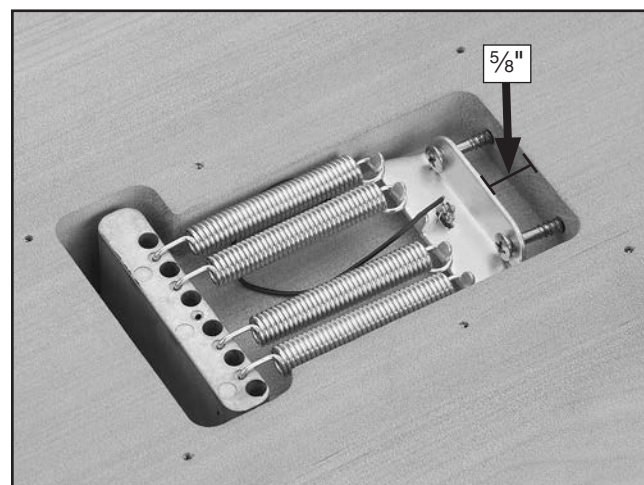

Figure 42. Correct spring placement.
2. Install the four tremolo springs as shown in **Figure 42**.